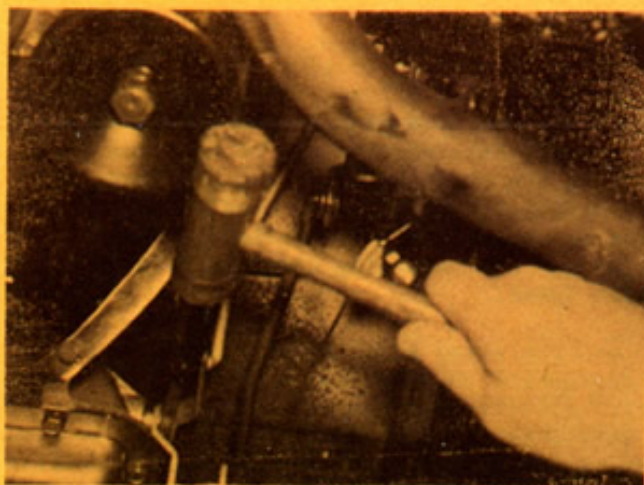

FIGURE 1
3. Position a screwdriver having a blade width of 3/8" between the transmission throttle lever and manual lever as shown in Figure 1.